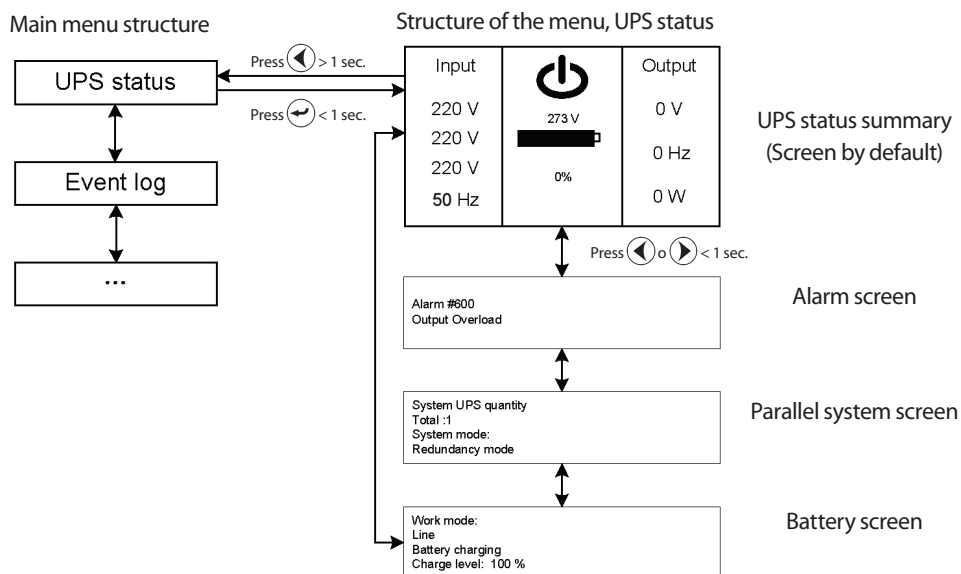

Fig. 34. UPS status screens.
- The contents of the UPS status menu, is the same as the main screen (see figure 34).